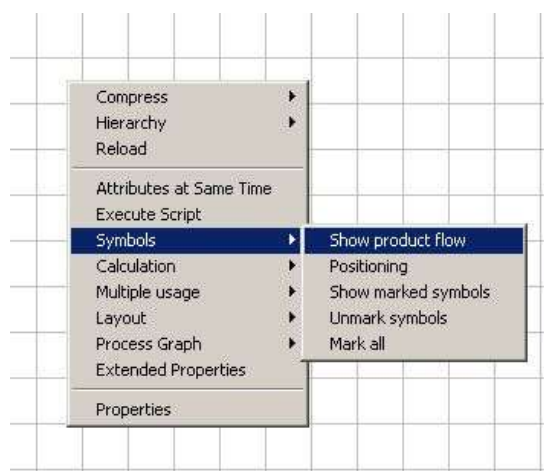

Figure 57: Contextual Menu – Show Product Flow
- 2) Select **Unmark symbols**. Please refer to the Figure 57.